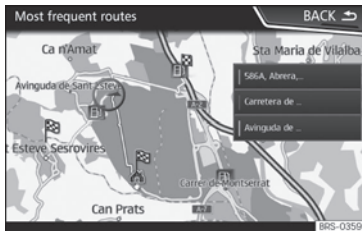

Fig. 208 Predictive navigation
- On the main screen of the Navigation menu, in the pop-up window, press the **FREQUENT ROUTES** button. To display frequently followed routes press the **Show on map** button »» Fig. 208.